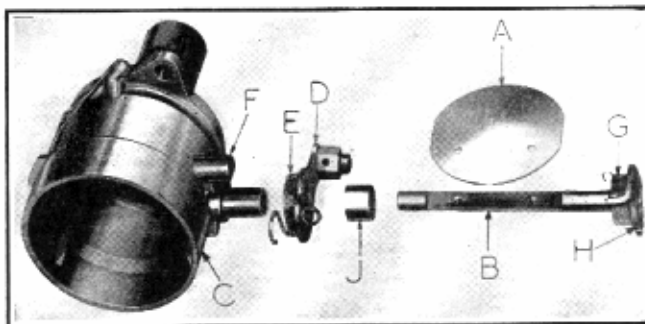
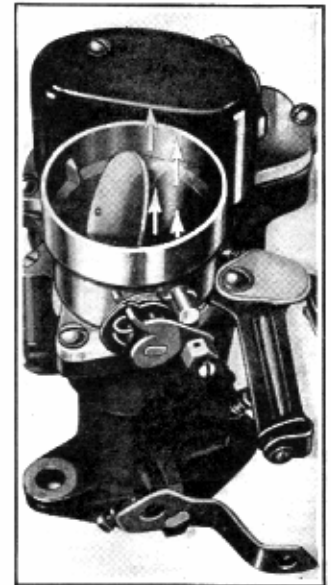

Fig. 13—Choke Parts
Fig. 15—Choke Valve Partially Open
The choke (Fig. 13) consists of a one piece choker valve (A), fastened by means of two screws to the choker shaft (B) which is offset to one side of the carburetor air horn (C).
The choker lever (D), illustrated in Fig. 13, is a stamping, and floats on this shaft between two springs. The inner or choker lever spring (E) is a wire coil, one end of which is stopped against a lug (F) on the air horn which also acts as a stop for the lever.
As the choke button on the instrument panel is pulled out against the pressure of the torsion spring, the light valve spring (G) (Fig. 13) causes the valve to follow the movement of the lever, closing the choke valve. As the engine starts, the rush of incoming air through the air horn of the carburetor overcomes the tension of the light valve spring (Fig. 14) and the valve automatically assumes the correct position to provide the proper amount of air for the mixture to enter and prevent over-choking.
In the event of back fire with the choke partially closed, the torsion spring (E) (Fig. 13) absorbs the shock by permitting the choke valve to swing up beyond the horizontal position (Fig. 15) and thus prevent damage to the valve.